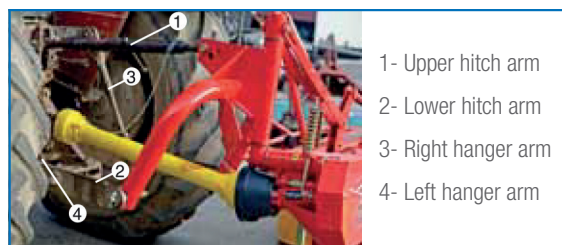

Figure 4 - Connection to the tractor
Firstly connect the lower non adjustable arm then adjustable arm at the end connect upper connection arm. While disconnecting the machine do the opposite. The machine should be positioned as near to the tractor as possible, for using the whole working width (Figure 4)
- The main holder on the machine can be connected to the three point hitch system while the tractor is parallel to the ground as shown in the (Figure 4).
- Connect the prescribed P.T.O shaft and secure the P.T.O shaft connection by a chain (Figure 4).